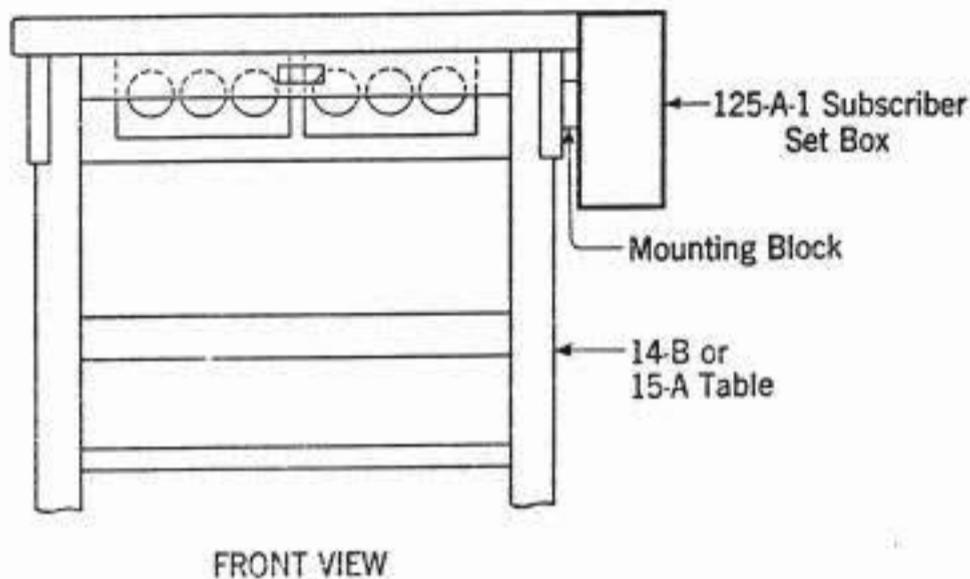

Fig. 4
8.01 The mounting of the 125-A-1 subscriber set on a 14-B or a 15-A teletypewriter table is shown by Figures 4 and 5.